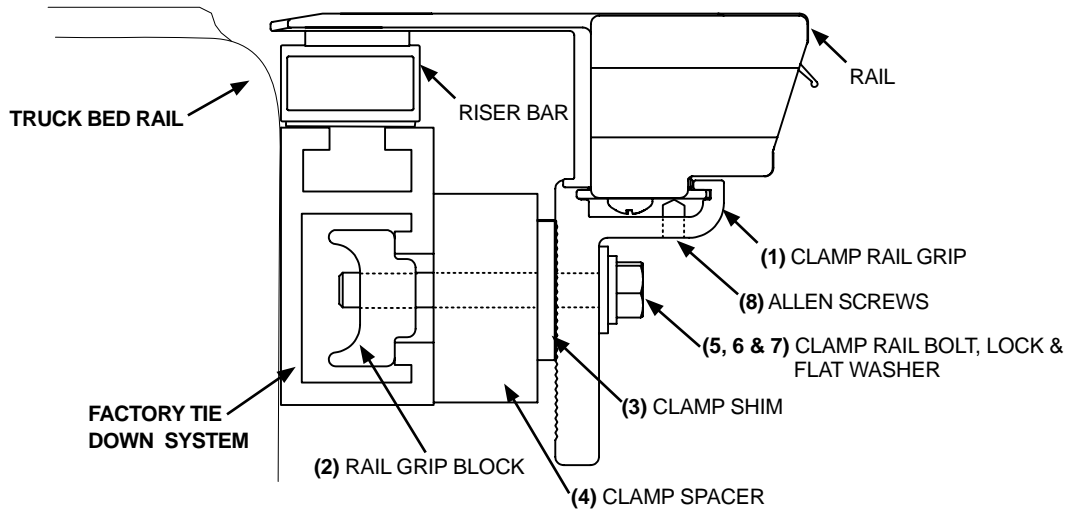

FIG. 5A
Place the 4 allen screws (8) in the clamp rail grips as indicated in Figure 5a and tighten them.